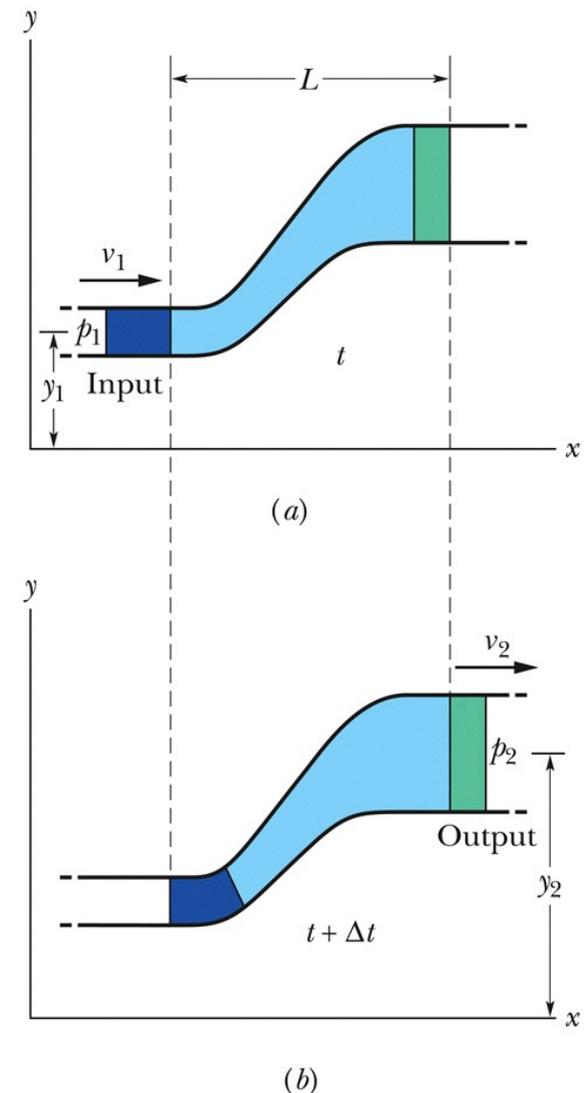

Figure 14-19
- Figure 14-19 represents a tube through which an ideal fluid flows